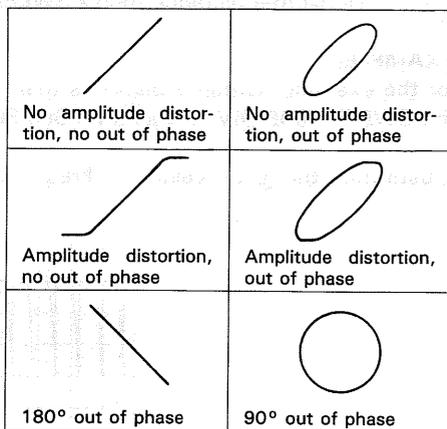

Fig. 16 Typical phase measurement oscilloscope displays
7. Some typical results are shown in Fig. 16.